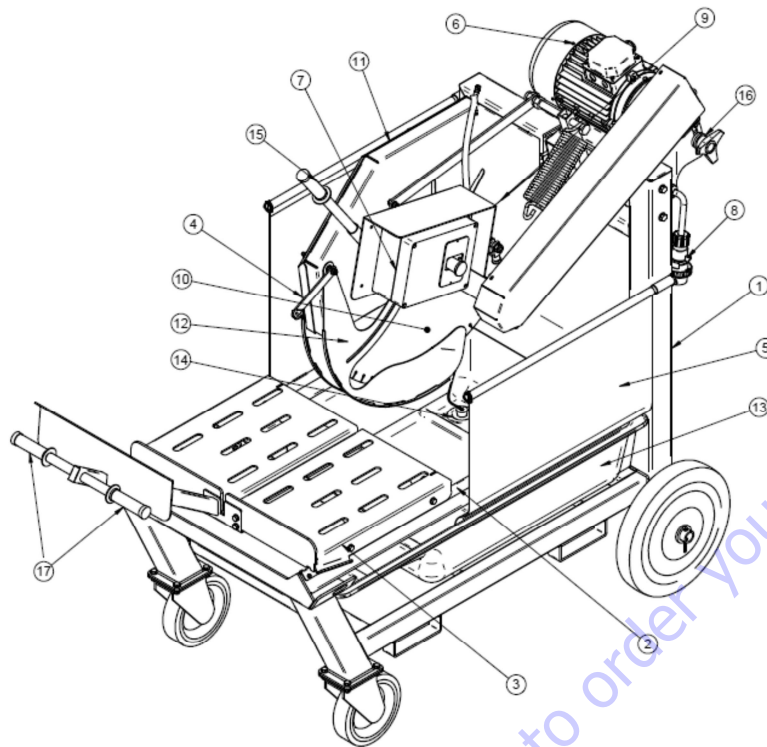

Fig. 1
- **To stop the saw from working, use solely the specific switch (ref. 7, Fig. 1).**